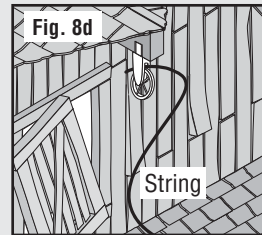

Fig. 8d
- Insert String through hole in Pulley detail (Fig. 8d).